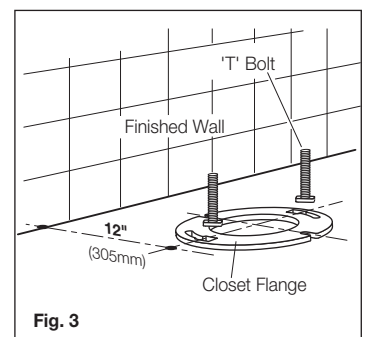

Fig. 3
It is essential for the installation of all 305 Two Piece Washdown toilets that the closet flange be accurately set out from the finished wall as detailed in **Fig. 3**.
- 1- Position 'T' bolts into closet flange, as detailed in **Fig. 3**.